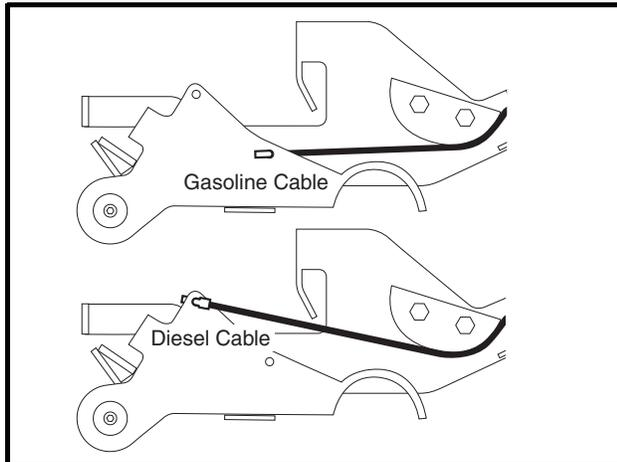

Figure 13b-22 Z-Shaped Cable End in Hole at Pedal
2. Connect the accelerator cable to the pedal (Figure 13b-22, Page 13b-22).
3. Secure the strain relief on the accelerator cable sheath to the slot at the back of the pedal bracket (Figure 13b-21, Page 13b-21).